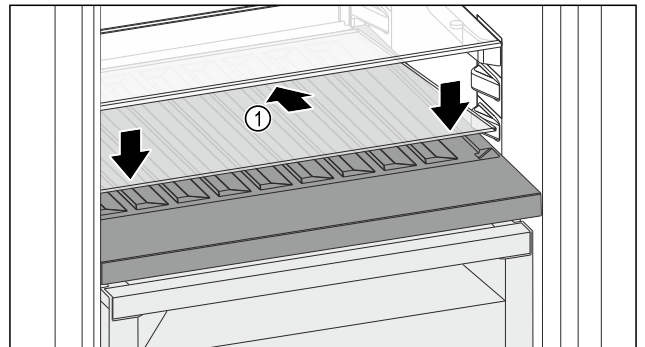

Fig. 125
- ▶ Place the glass shelf Fig. 125 (1) at an angle, sloping it downwards and backwards.
- ▶ Lower the glass shelf Fig. 125 (1) at the front.